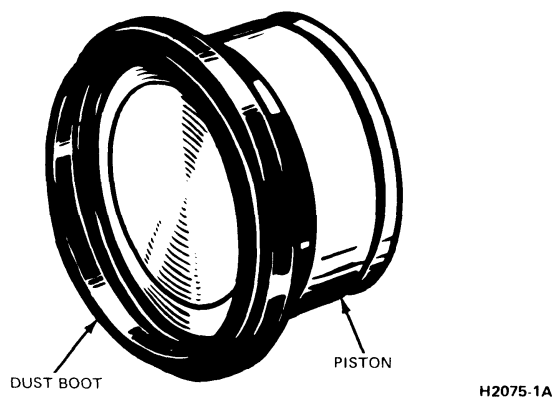

FIG. 30 Piston and Dust Boot Assembly
2. Coat the outside of the piston and both beads of the dust boot with **clean** brake fluid. Insert the piston through the dust boot until the boot is around the bottom (closed end) of the piston (as shown in Fig. 30).